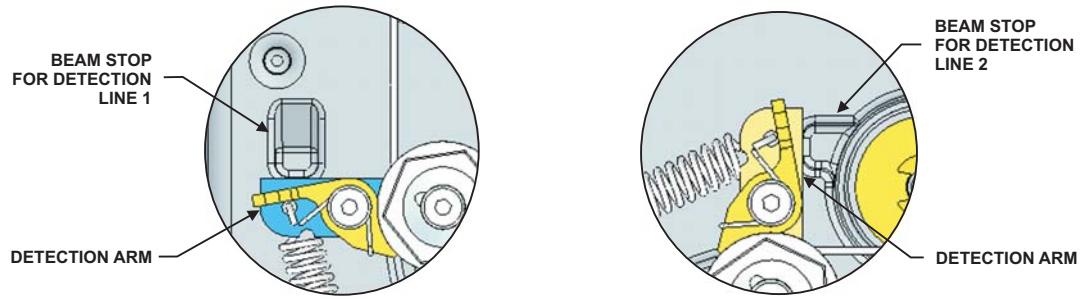

Figure 4-76. Detection Beam Stops
3. Using a 7/8-inch socket (or equivalent), carefully ratchet up the slack in the control cable lines (see Figure 4-76). Tighten the line until the beam reaches the stop. **Do not overtighten.**